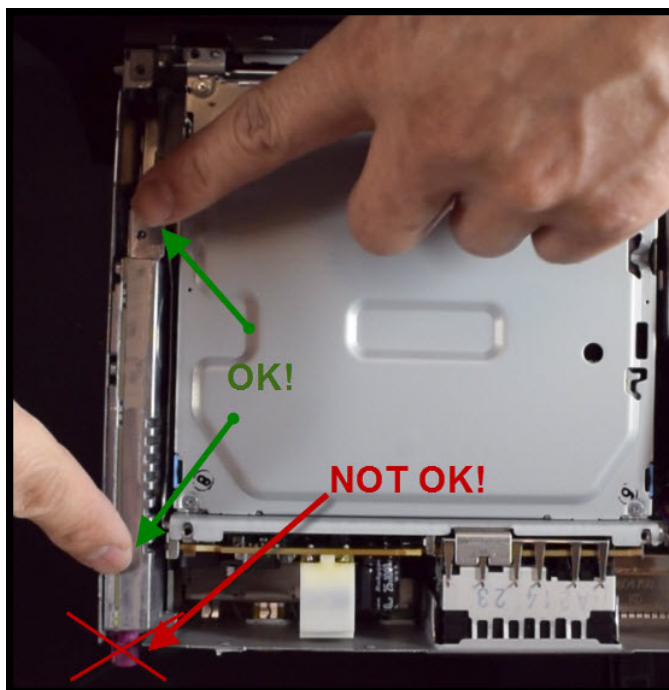

Figure 15. Do not press down using the purple FAKRA connector.
13. Place the new UMTS telephone module into the socket, making sure it is level before snapping it into place. Use both ends of the telephone module when pressing it into place. Do not press down using the purple FAKRA connector (Figure 15).
18. Place the repair label on the top of the main unit cover. Do not cover any part number label and do not cover the yellow laser warning (Figure 15). Fill out all fields on the repair label.
Figure 15. The white area indicates the suggested location for the repair label on the top cover of the main unit. Do not cover any existing part number labels or the laser warning.